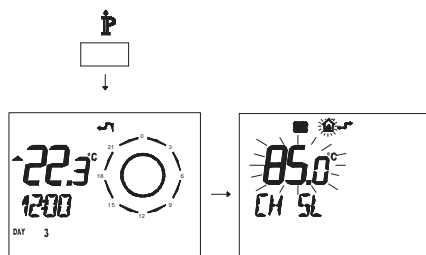

Fig. 7.27
- Press button **P** for more than 3 seconds to enter in **INFO** mode (Fig. 7.27).